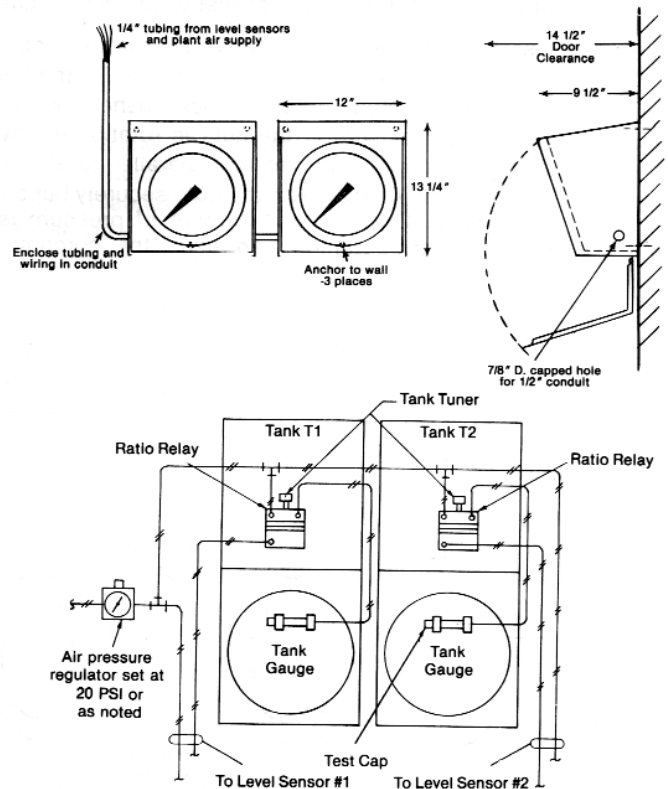

Figure 7
**Tagging.** It is good practice to use wire markers on tubing ends. Each tube should be tagged so that it can be removed from its fitting and returned to its fitting during maintenance work. (Figure 7)